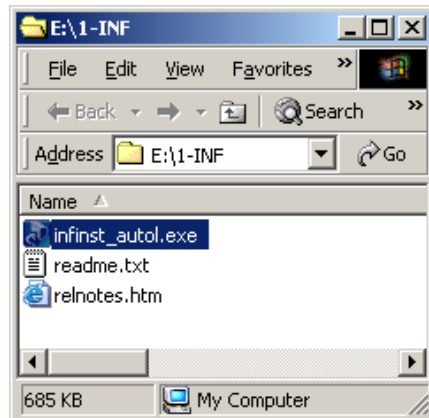

Figure 7-3: Chipset Driver Installation Program
Step 2: A new window opens (**Figure 7-3**).